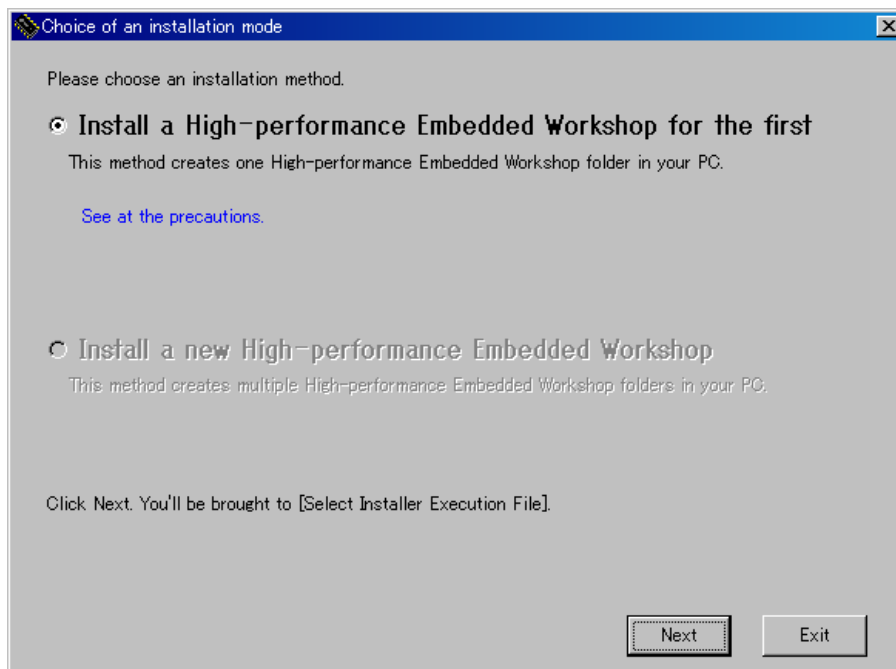

Figure 3.1.2 HEW Installation Procedure (2)
(2) Figure 3.1.2 is displayed, and click “Next”.